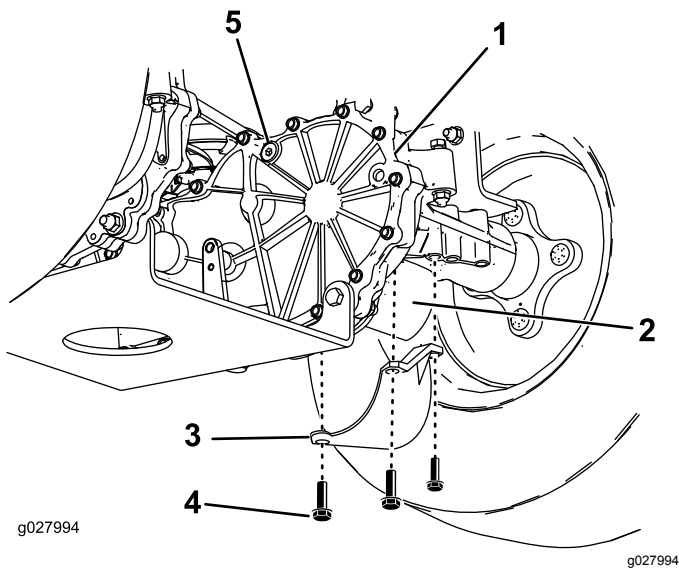

Figure 45
3. Locate the filter and filter guards on each transaxle drive system (Figure 45). Remove the 3 screws securing the filter guard and guard.